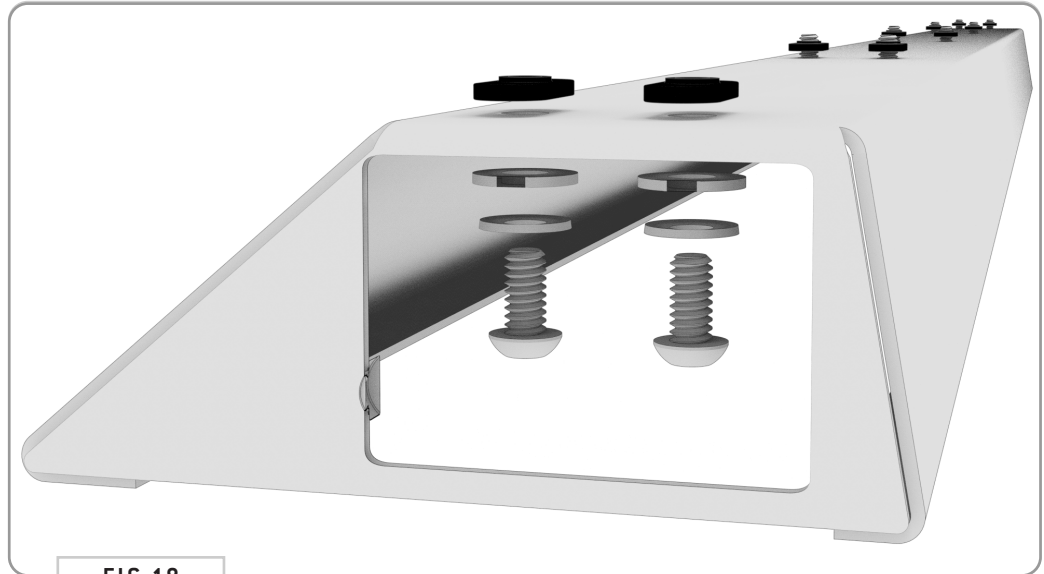

FIG 18
**6.1 Spoiler Assembly:** Stack a 1/4-20" x 0.5 Button Head Screw, 1/4" Belleville Lock Washer and 1/4" Flat Washer as shown in FIG 18 and insert into the ten available top holes of the Rear Spoiler. Loosely assemble using a T-Nut. You'll only want to screw the T-Nuts on a little in order to provide clearance for the next step.